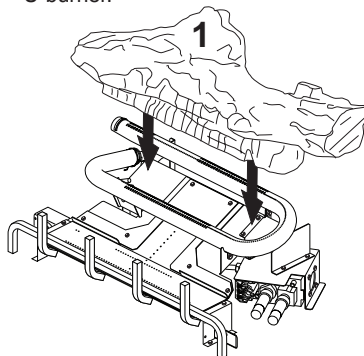

Figure 32 - Installing Log #1
- Place rear log (#1) on base assembly as shown in Figure 32. Log will fit over right end of burner and rest in middle of U-burner.